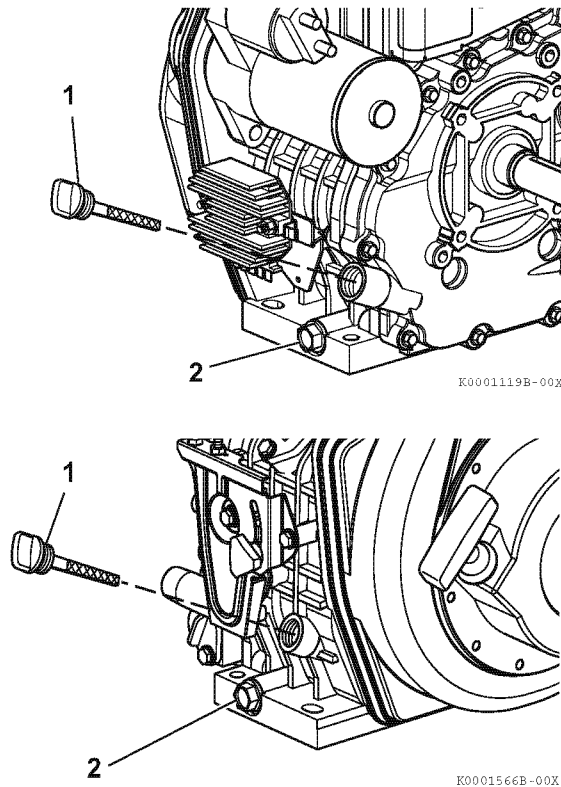

Figure 3
4. Remove the oil cap/dipstick (1, **Figure 3**) to allow the engine oil to drain more easily.
6. Remove the drain plug located on the bottom of the cylinder block (2, **Figure 3**). Allow oil to drain.
7. After all oil has been drained from the engine, install the drain plug (2, **Figure 3**) and tighten to 14 - 17 ft lbs (19.6 - 23.5 N·m, 2.0 - 2.4 kgf·m).